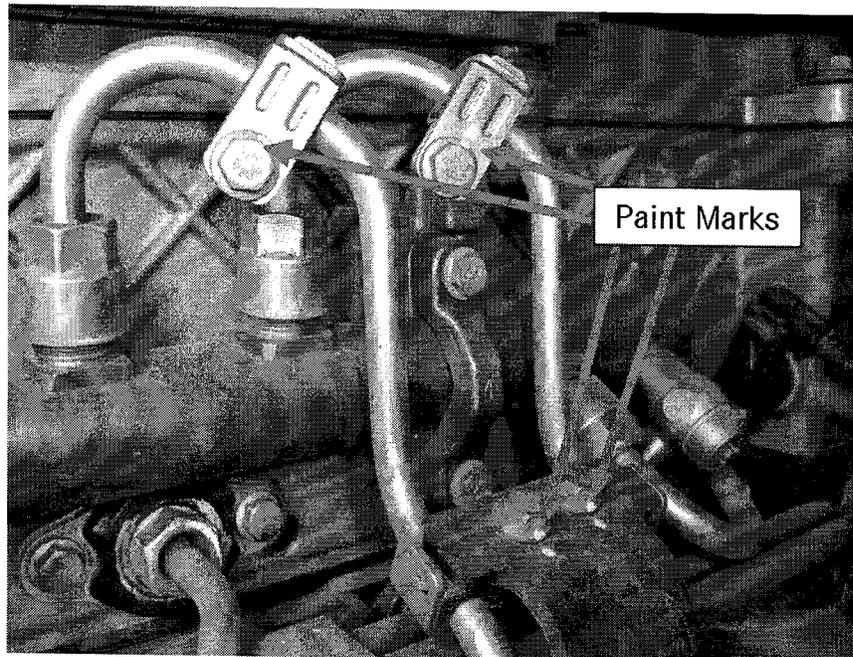

Figure 4 – Paint Marks on Vibration Damper Bolts and High Pressure Fuel Feed Line P-Clip Bolts
5. Begin a **PHYSICAL** inspection by doing the following: See Figure 4.